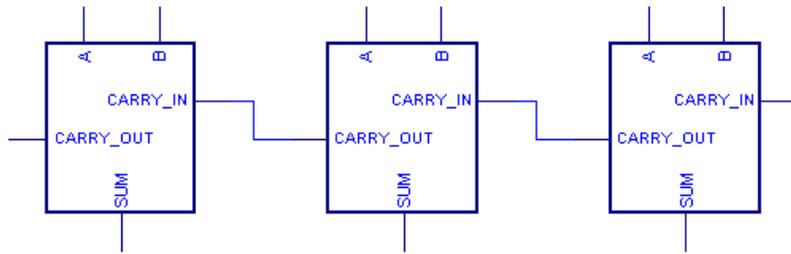

FIGURE 2 3-Bit Adder.
When a sum is performed using full adders, each adder handles a single column of the sum. Figure 2 shows how to build a circuit that adds two three-digit binary numbers using three full adders. The CARRY_OUT for each bit is connected to the CARRY_IN of the next most significant bit. Each bit of the three-bit numbers being added is connected to the appropriate adder's inputs and the three SUM outputs make up to full 3-bit sum result.
- Complete the table by filling in the correct values for CARRY_OUT so that adders connected as in Figure 2 will perform valid addition.